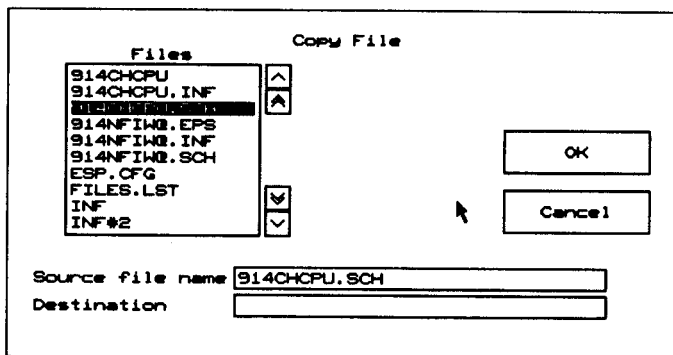

Figure 2-18. *Copy File* window.
1. Select **Copy File**. The window shown in figure 2-18 displays.